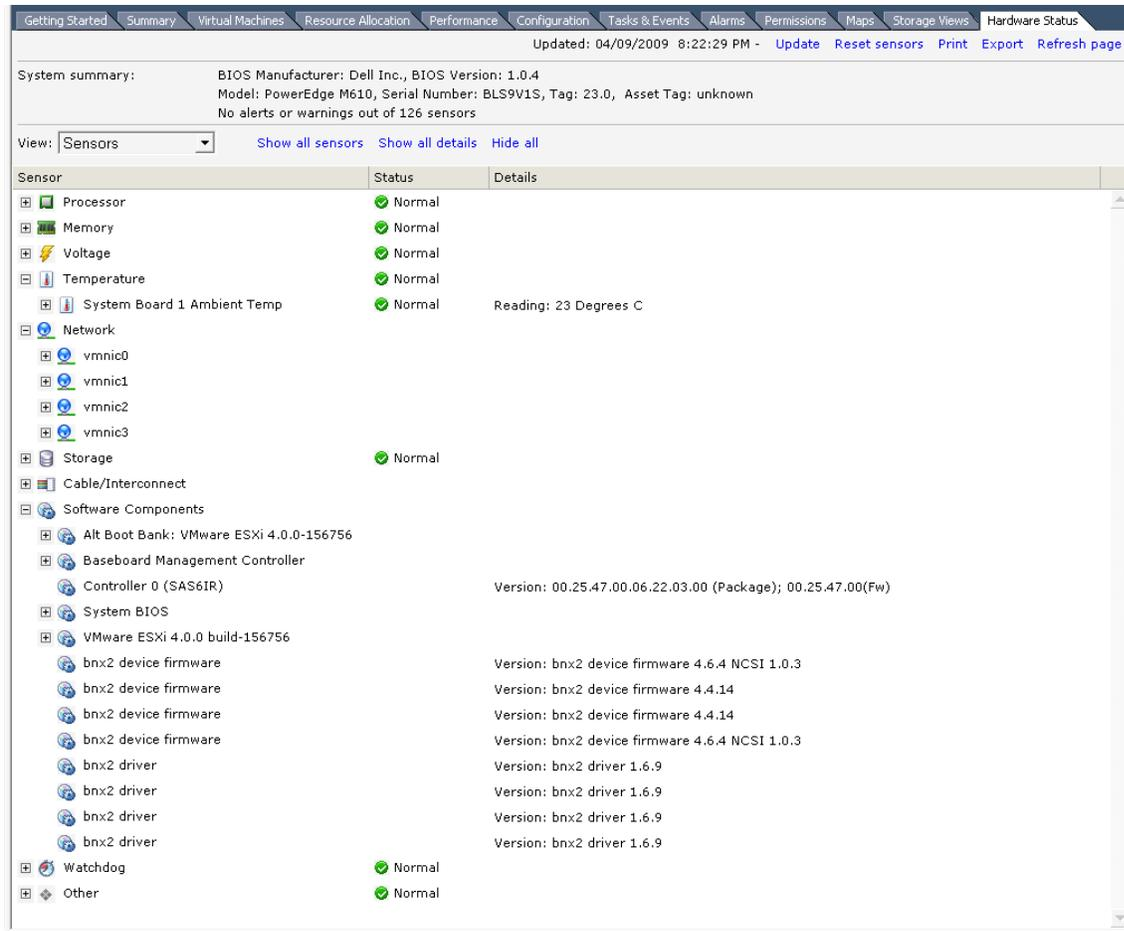

Figure 5: vSphere Client Health Tab
- Figure 5: vSphere Client Health Tab9
You can also view server hardware health in vSphere Client. vCenter 4 obtains health information from the same source as OMSA. Figure 5 shows what the hardware management tab looks like in vSphere Client. In addition to viewing health status, vCenter allows you to set alarms that alert you to changes in hardware health—several of these alerts are enabled by default when you install vCenter 4.
- **FRU (Field Replaceable Unit)** – View FRU information as shown in Figure 5; this provides serial number and part number information that is valuable during troubleshooting and diagnostics